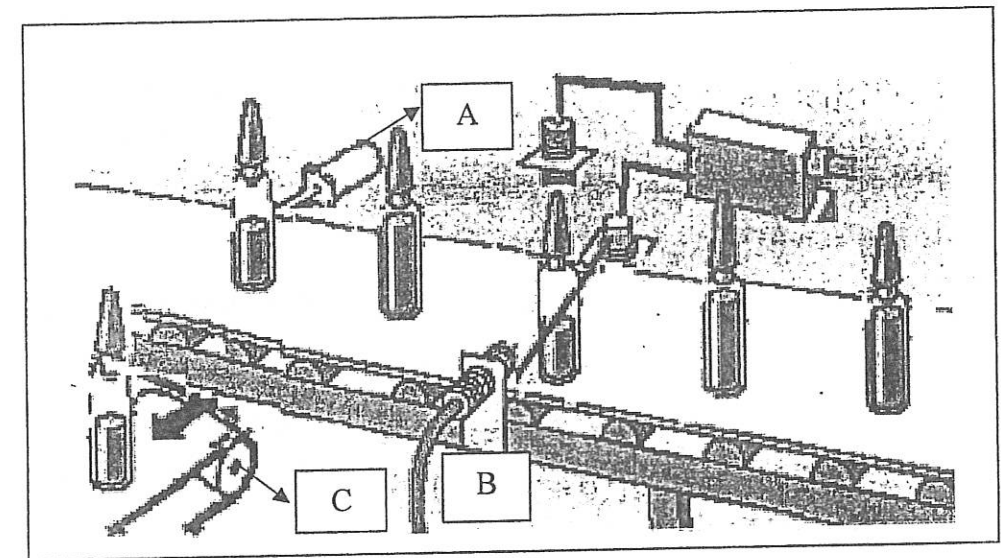

Figure 1/ Rajah 1
c) Based on Figure 1, sensor A will detect the cap which is made of plastic, while sensor B will detect the level of the perfume in the vials. Identify the type of sensors that can be used for sensor A, sensor B and output device C.